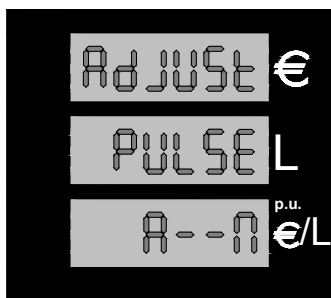

Figure 15: Display initial AdJ Pulse
- **ADJ Pulse** This is the procedure to calibrate the mechanical counter by changing the value of the pulse (rated value: 1 pulse = 1 cl). This procedure is only available in the versions of those countries where this control is allowed. Before entering the procedure, a certain quantity of 20 litres must be dispensed (use a 20 l certified measure for this). Figure 15 shows the display that comes up when you enter the procedure.